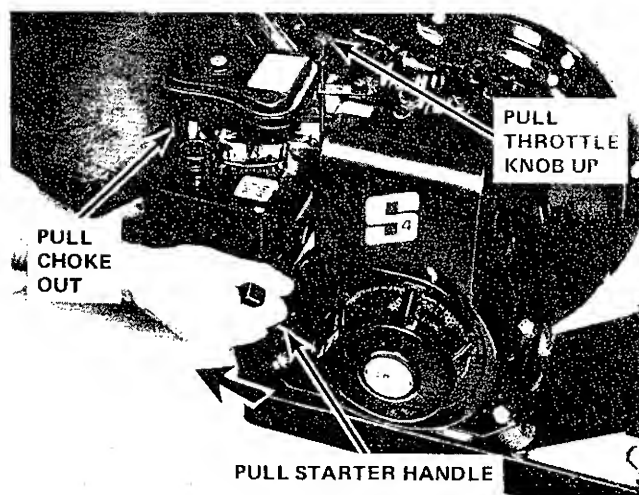

FIGURE 8
2. Pull engine choke plunger out to **CHOKE** position (Figure 8).
4. Grasp recoil starter handle firmly in your right hand and pull sharply straight out until engine starts. (Figure 8) After the engine starts, return choke or plunger to **OFF** position. If the engine fails to start after four or five pulls, it may be flooded. Return the choke lever or plunger to **OFF** position and pull the starter handle to clear the excess fuel.